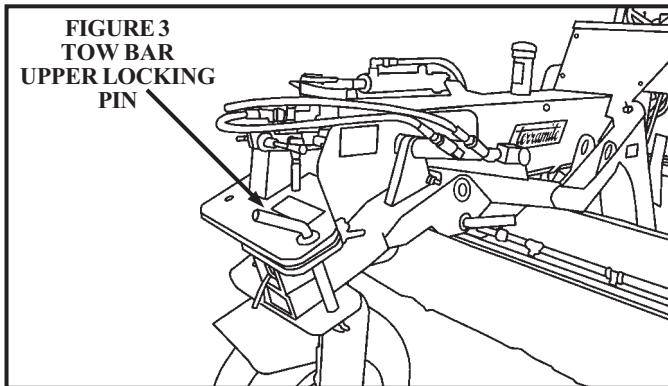
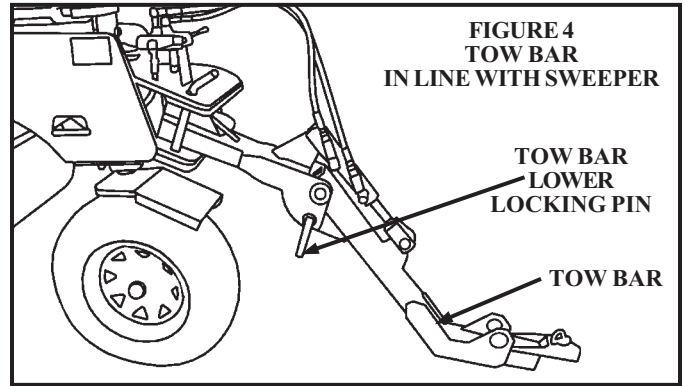

FIGURE 3
FIGURE 4
3. Remove tow bar upper locking pin (See Figure 3) and place tow bar in line with sweeper (See Figure 4). Re-attach tow bar upper locking pin, making sure its secure
4. Remove the tow bar lower locking pin (See Figure 4).